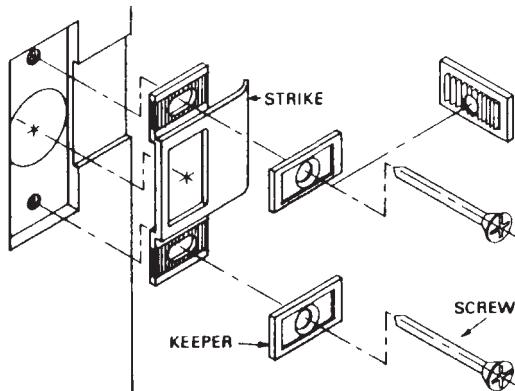
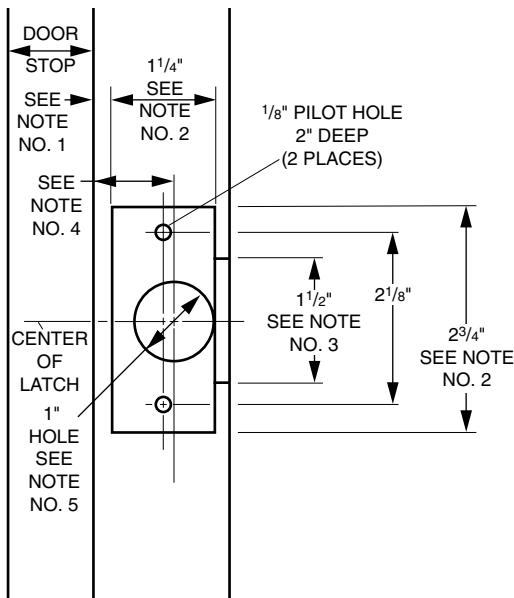

Figure 13.54 Exploded view illustrating parts relationship for the complete installation of the Adjust-A-Strike. (M.A.G. Engineering and Mfg., Inc.)
Figure 13.55 Jamb preparation for the Adjust-A-Strike models 450 and 451. (M.A.G. Engineering and Mfg., Inc.)
3. If desired by the customer, an Adjust-A-Strike may be installed with the unit. Several models are available. Figure 13.54 refers to the models 450/451: 1 $\frac{1}{4}$ -inch \times 2 $\frac{3}{4}$ -inch lip and deadbolt strike jamb preparation. (Figure 13.55 provides positioning of parts and the strike installation completed for all models described here.)